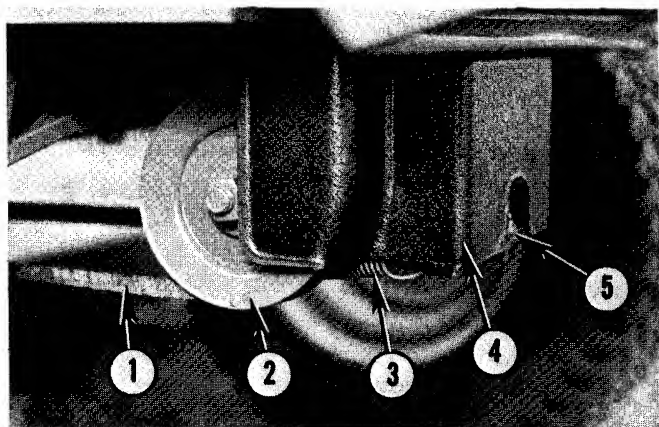

Fig. 41 — Mower Installation
12. Rotate bolt, No. 6, clockwise until both pulleys are at same height. Install cover, No. 4, Fig. 41, with 5/16" x 7/8" Hex Head bolts and washers.